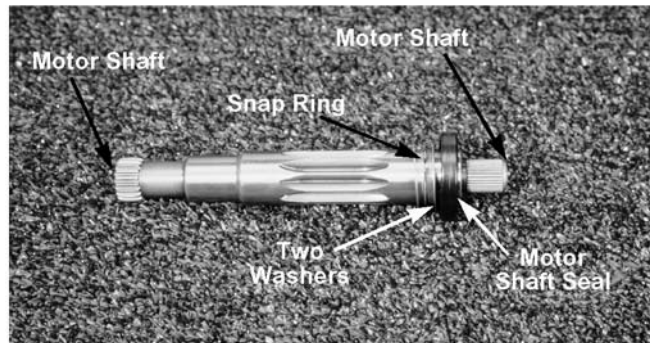

Figure 6-145
- D. Motor shaft (splines, gear teeth) See Figure 6-145.